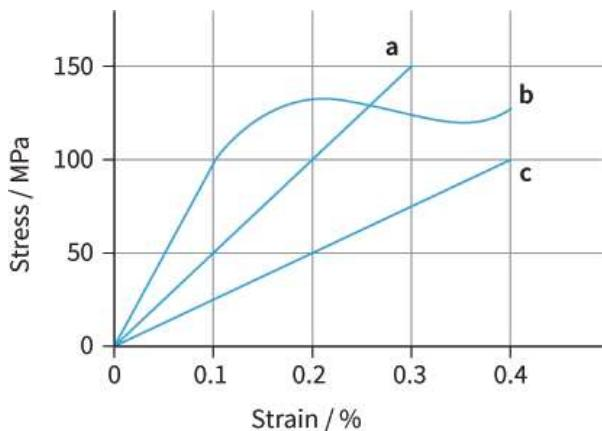

Figure 7.15: Stress-strain graphs for three materials.
- 19 For each of the materials whose stress-strain graphs are shown in Figure 7.15, deduce the values of